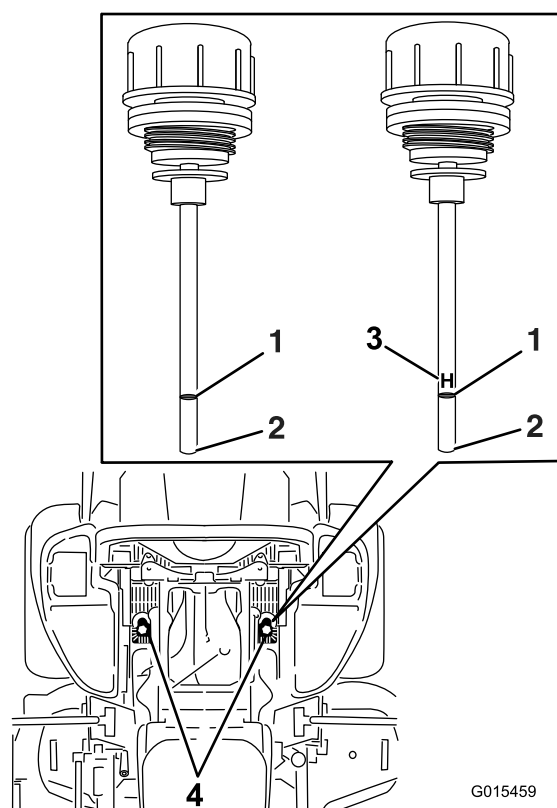

Figure 81
5. Clean the area around the dipsticks of hydraulic-system reservoirs (Figure 81).
6. Remove 1 dipstick from the hydraulic reservoir (Figure 81).
8. Remove the dipstick and look at the end (Figure 81).